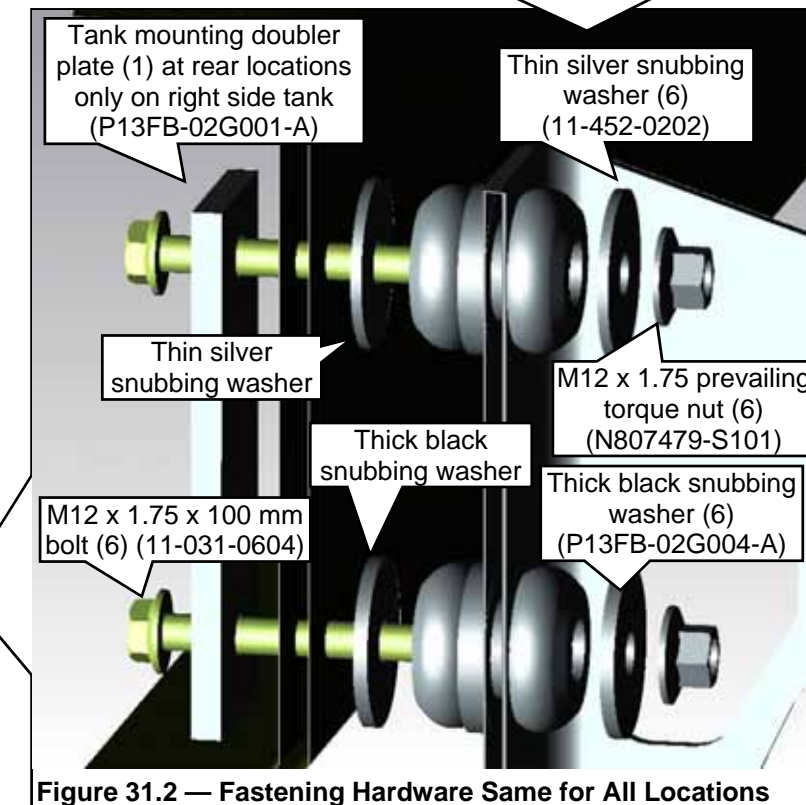

Figure 31.2 — Fastening Hardware Same for All Locations
2. Inside the right frame rail, position a tank mounting doubler plate with two bolts onto the right frame rail at the rear tank mounting location only. The front tank mounting location does not require a doubler plate, only two mounting bolts. Note: All other mounting hardware is the same at all locations. **Figures 31.2 and 31.3.**